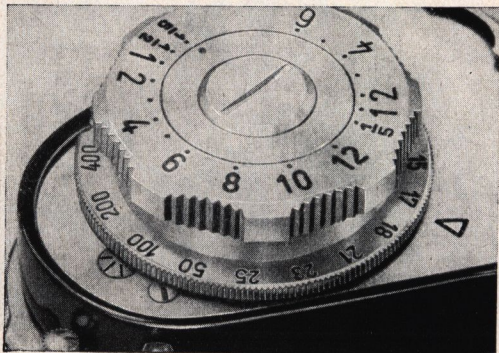

Fig. 37
To control the film transport there is the control disc (rotating film speedometer) marked by a red cross (19). The cross turns, when the spool of the cartridge rotates (Fig. 37).